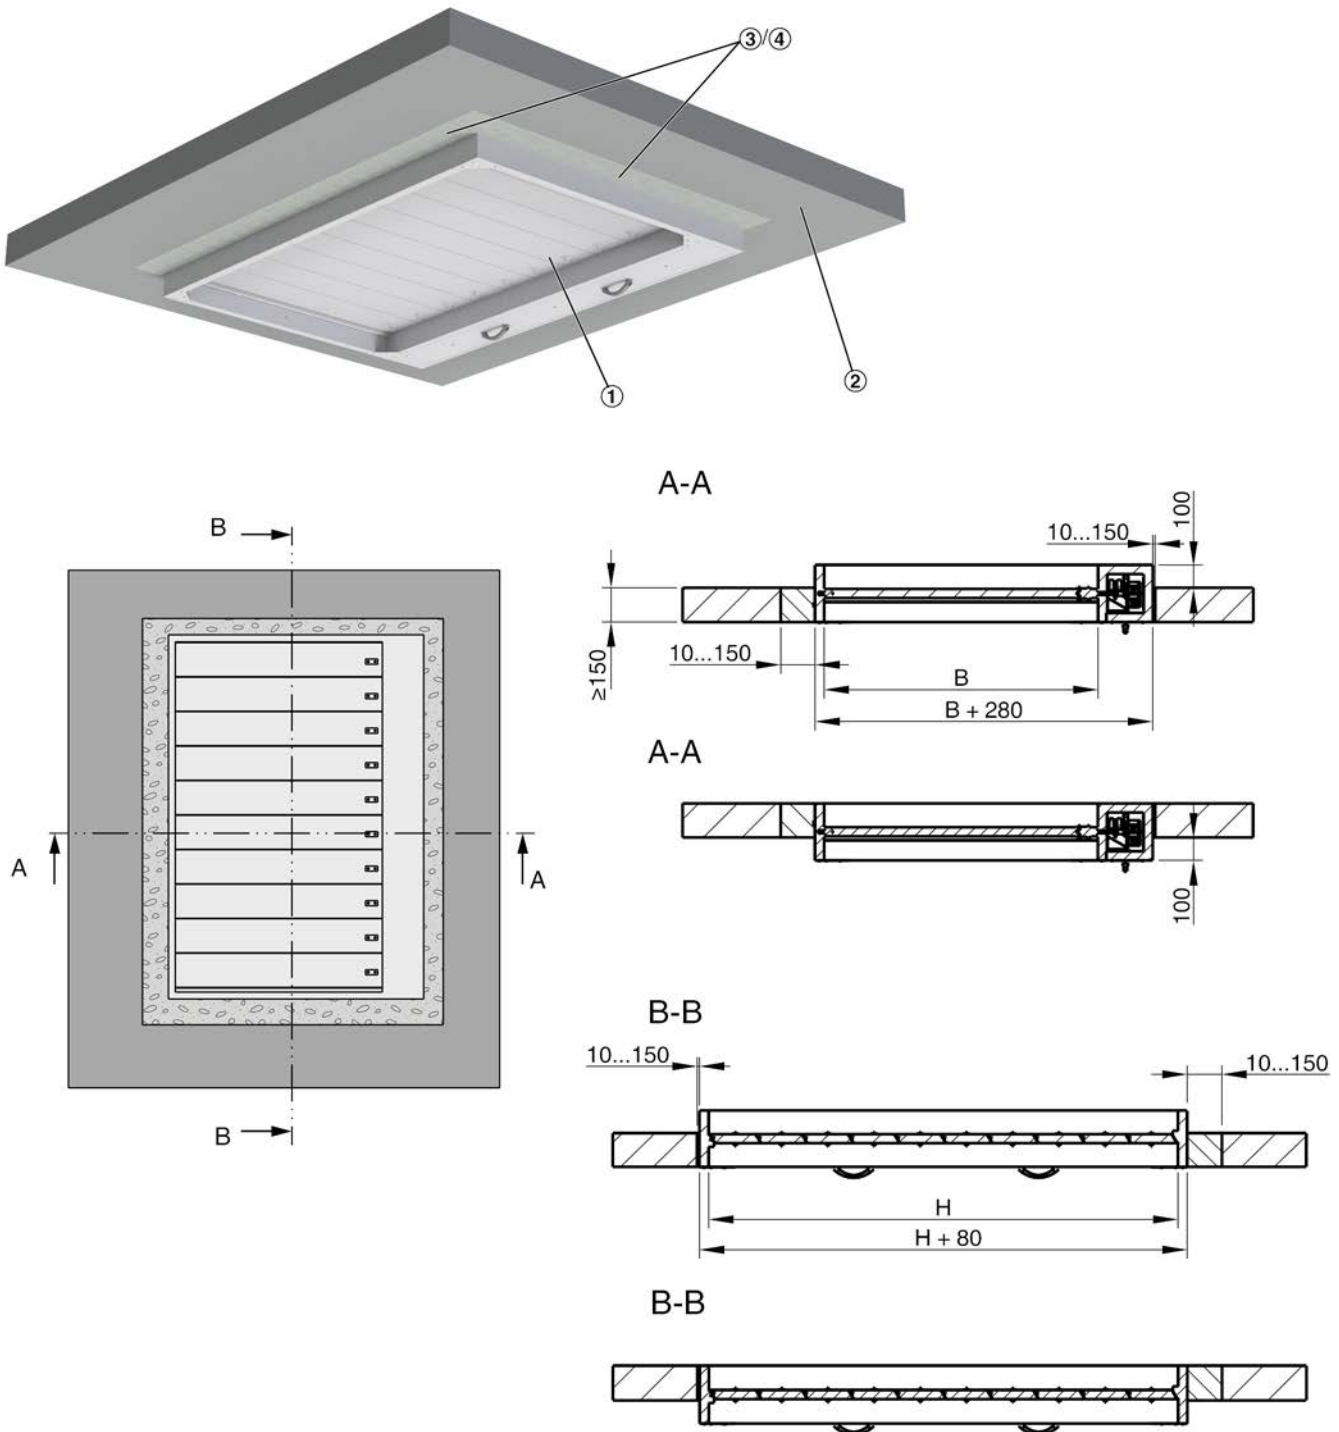

Fig. 28: Mortar-based installation into the ceiling slab
- ▶ Create an installation opening in the ceiling slab, dimensions Fig. 28 .